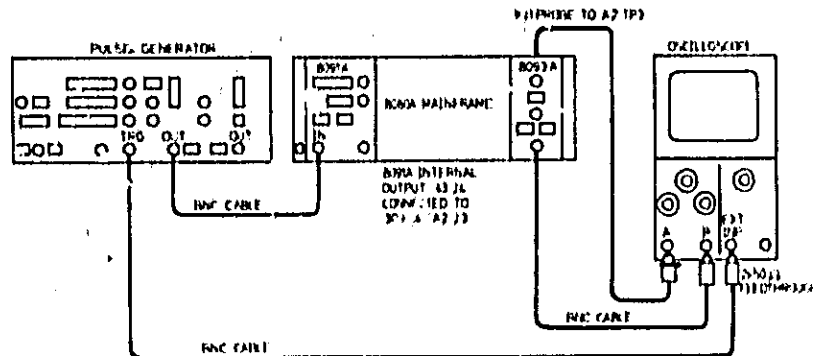

Figure 5-1
1. Connect the equipment as shown in Figure 5-1 and adjust the 8091A EXT INPUT LEVEL vernier and the oscilloscope trigger level to obtain a gate signal on the oscilloscope.